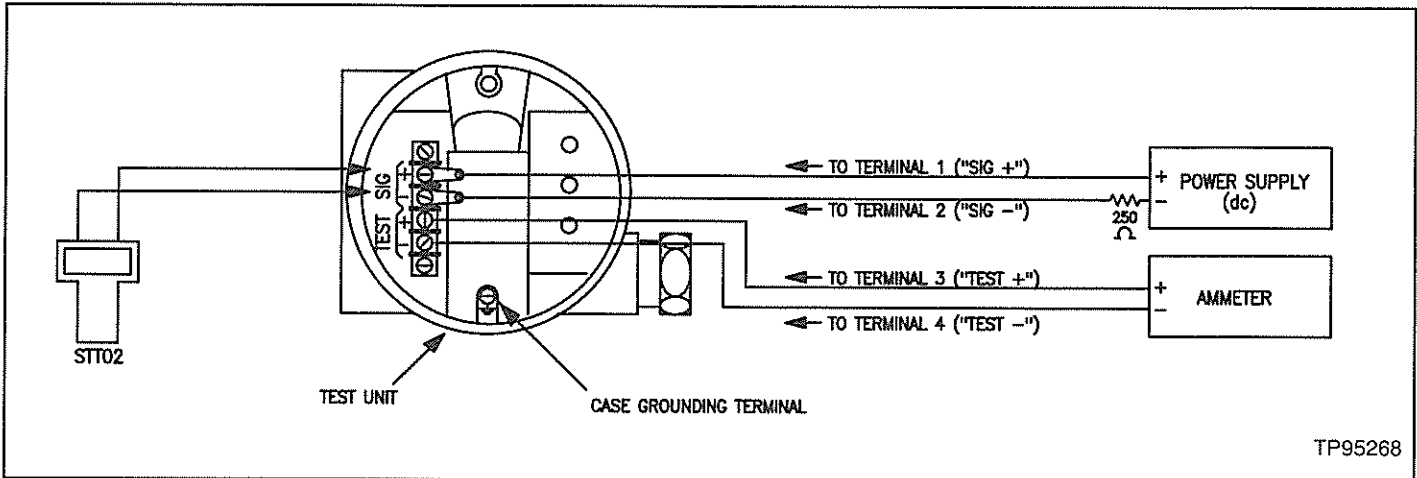

FIGURE 21 – Typical Calibration Setup
1. Connect the transmitter in a calibration setup (see Figure 21). Position the transmitter in the same position as final installation.
1. Connect the transmitter in a calibration setup (see Figure 21). Place the transmitter in the same position as the final installation.
1. All calibration is done electronically by the STT02 Smart Transmitter Terminal. Connect transmitter in a calibration setup (see Figure 21). Position the transmitter in the same position as the final installation.